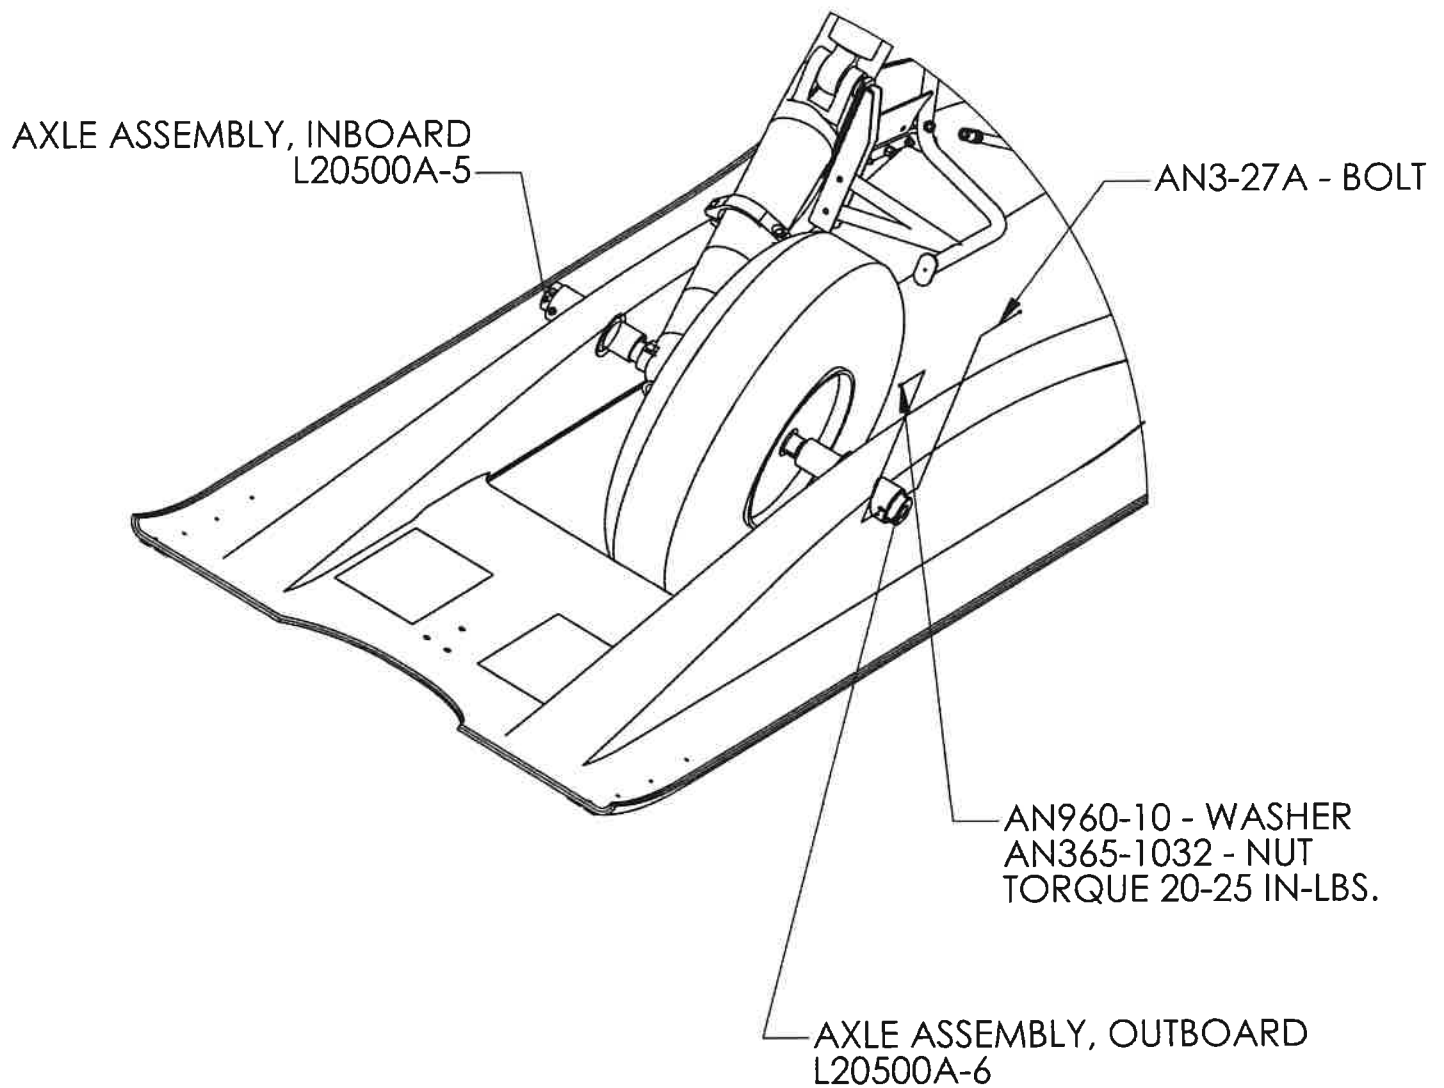

Figure 5.2
45. Thread Inboard and Outboard Ski Axles until both are evenly seated on Axle, Main Landing Gear (L20500A-7). *See Figure 5.2*
47. Install bolt(s) (AN3-27A) through Inboard and Outboard Axles and Ski Bushing. Affix Washer(s) (AN960-10) and Nut(s) (AN365-1032) onto bolt(s) *See Figure 5.2*. TORQUE NUTS TO 20 – 25 INCH-POUND.